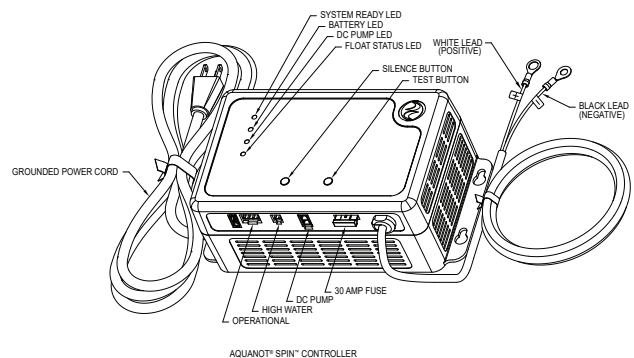

FIGURE 5
- (d) Check 30 amp fuse on controller (see fig. 5). If fuse is blown, replace with 30 amp automotive blade fuse.